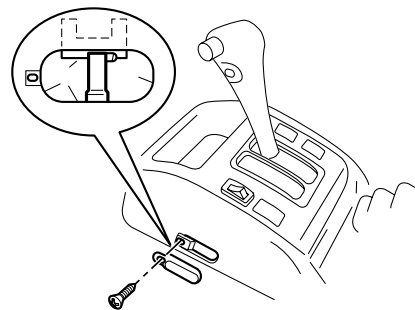

FIGURE 8
5. Locate the return plate. Using a finger, move the return plate toward the rear of the vehicle until it stops (figure 8).